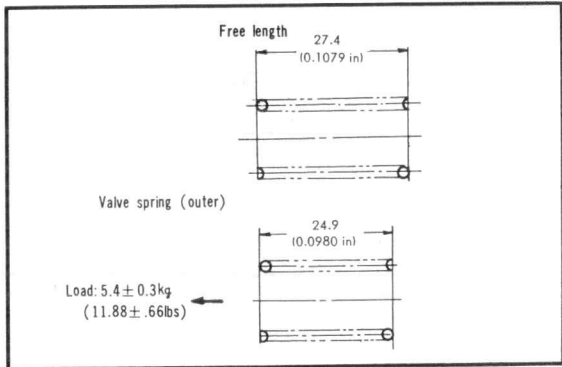

Figure 3-30. Outer valve spring
(6) Outer valve spring (Fig. 3-30)